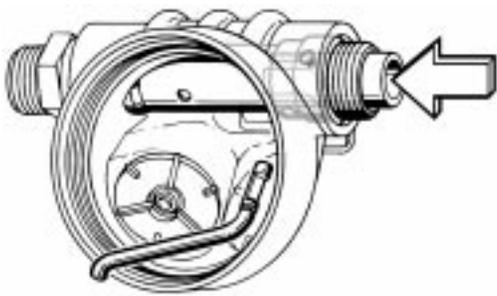

Fig. 19 - Lever Installation Tool Engagement
20. Locate the hole of the valve body that is directly adjacent to the inside wall of the box bottom, above the right exhaust valve. While holding the tool depressed, carefully insert the notched end of the lever(5) into this hole, straight through the tail of the poppet inside, and into the hole in the opposite side of the valve body (see Fig. 19).